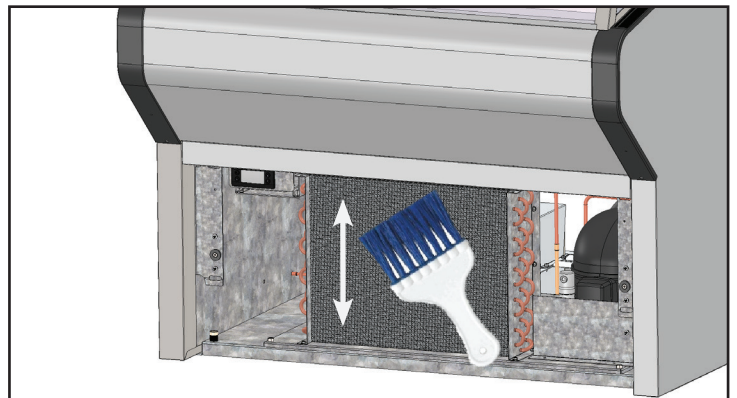

Fig. 3. Never brush across the coil fins.
4. Carefully clean off accumulated dirt from the front fins of the condensing coil with a stiff bristle brush. See fig. 3.